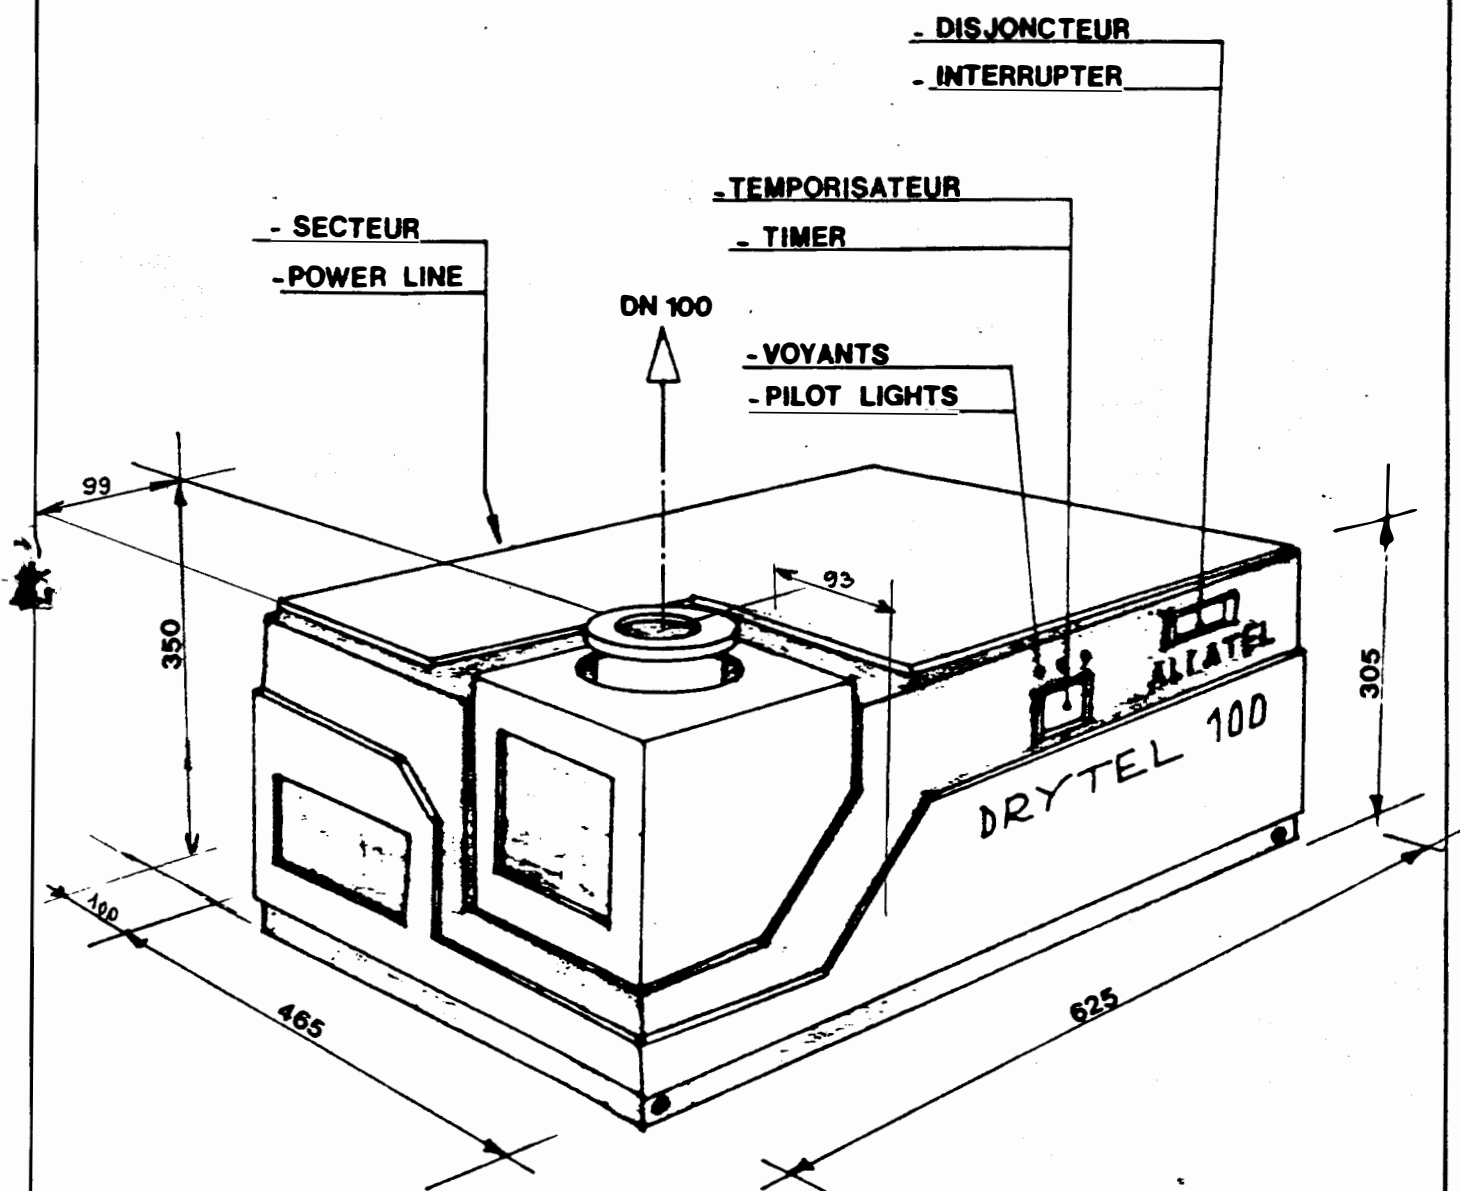

FIGURE 3
- Figure 3 - DRYTEL 100 - Encombrements
- Figure 3 - Drytel 100 : dimensions